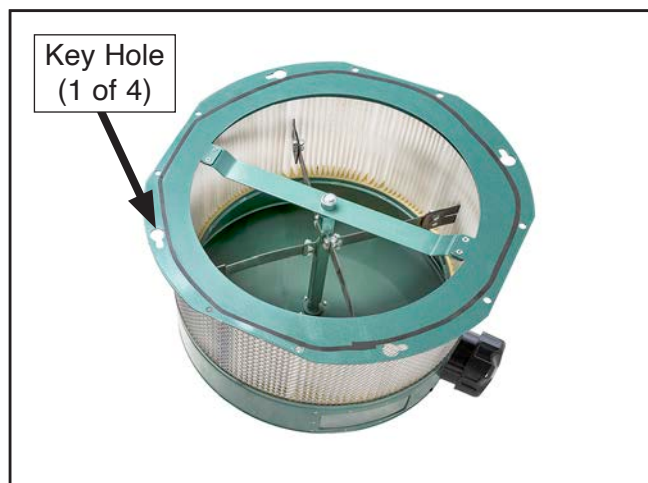

Figure 62. Location of filter assembly key holes.
15. Lift filter assembly and align (4) key holes (see **Figure 62**) with installed hex bolts. Rotate assembly clockwise to seat assembly in place.